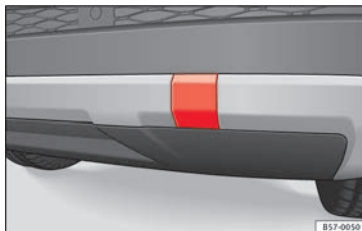

Fig. 99 Rear bumper on right: remove the lid.
The housing of the screw towing eye is on the right side of the rear bumper behind a lid » **Fig. 99**. Vehicles equipped as standard with a towing bracket **do not** have any housing for the screw towing eye behind the lid. In this case, the tow hitch needs to be extracted
- Press the upper side of the lid » **Fig. 99** to unclip it.